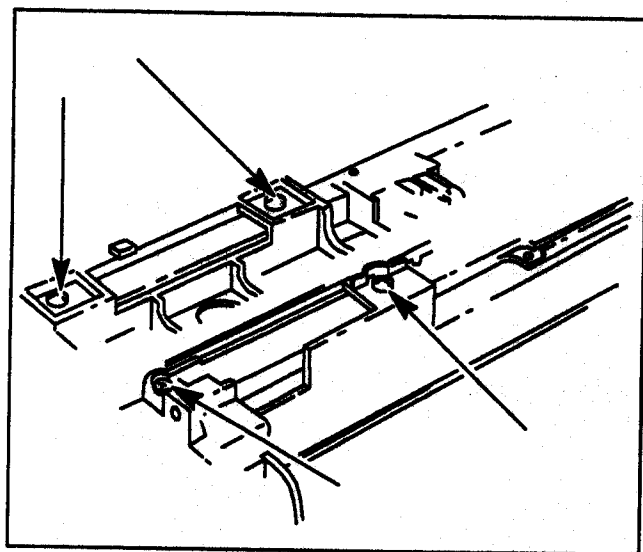

Figure 6-33. Left Chassis Removal
- p. Remove the four Torx screws securing the left chassis to the datum bar. See Figure 6-33.